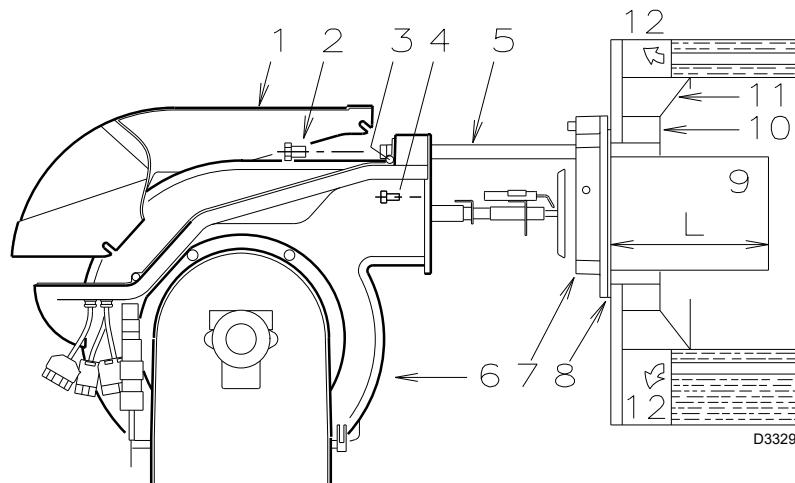

Fig. 7
For boilers having a water-cooled front the refractory fettling 10)-11)(Fig. 7) is not required unless it is expressly requested by the boiler manufacturer.
Secure flange 7)(Fig. 7) to the boiler plate interposing the supplied gasket 8)(Fig. 7). Use the 4 screws provided after having protected the thread with antiscruffing products.
- Retract the burner on its slide bars as shown in Fig. 7 page 10.